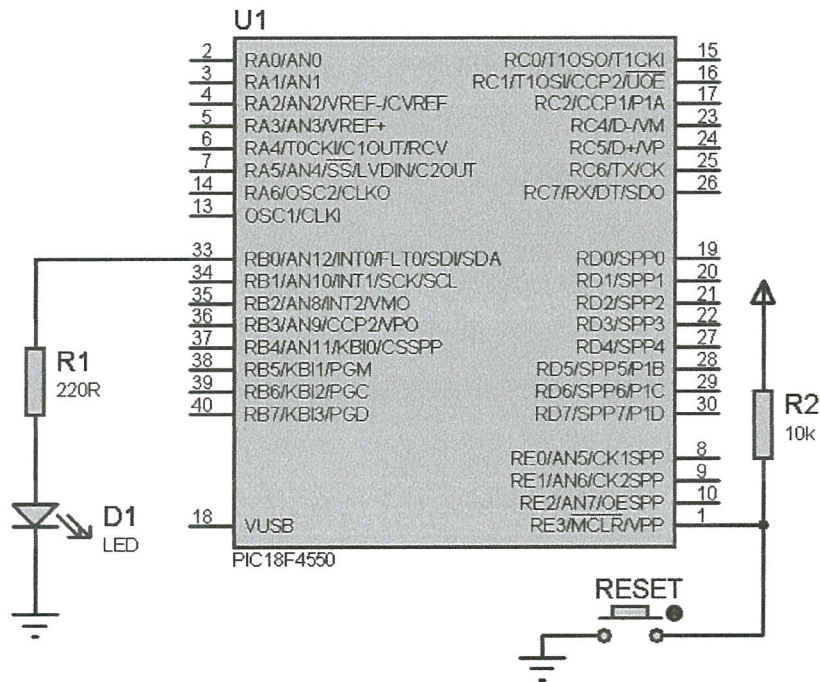

FIGURE Q1(d)
- (d) If the PIC 18F4550 is connected to a LED as shown in **Figure Q1(d)**. Write a simple program to blink the LED every 1024 μ s using specifications as in **Question 1(b)**. (7 marks)